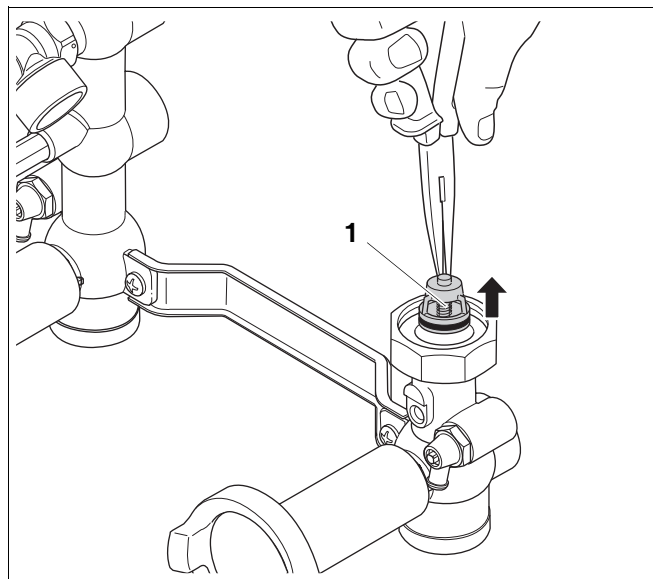

fig. 6 Removing the non-return valve
- Remove the non-return valve (fig. 6, **item 1**).